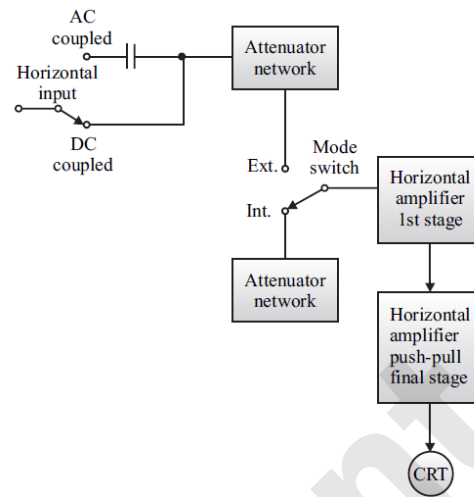

Fig. 1.7.1 : Block diagram of the horizontal amplifier of an oscilloscope
- iii. A push pull amplifier is applied in case of vertical amplifier, horizontal amplifier also contains a push pull amplifier. This arrangement can also be seen from the circuit diagram shown in Fig. 1.7.1.,